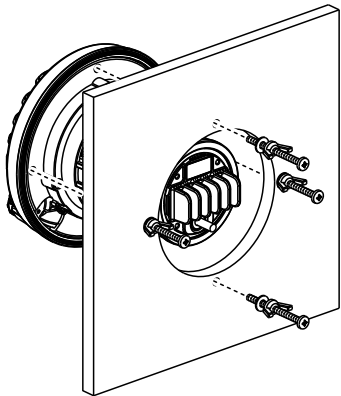

Figure 5
- 5. Referring to Figure 5, pass through the four M4x50 Screws (with Nut and Washer) into the mounting holes on the panel from the back side and turn the M4x50 Screws five times.